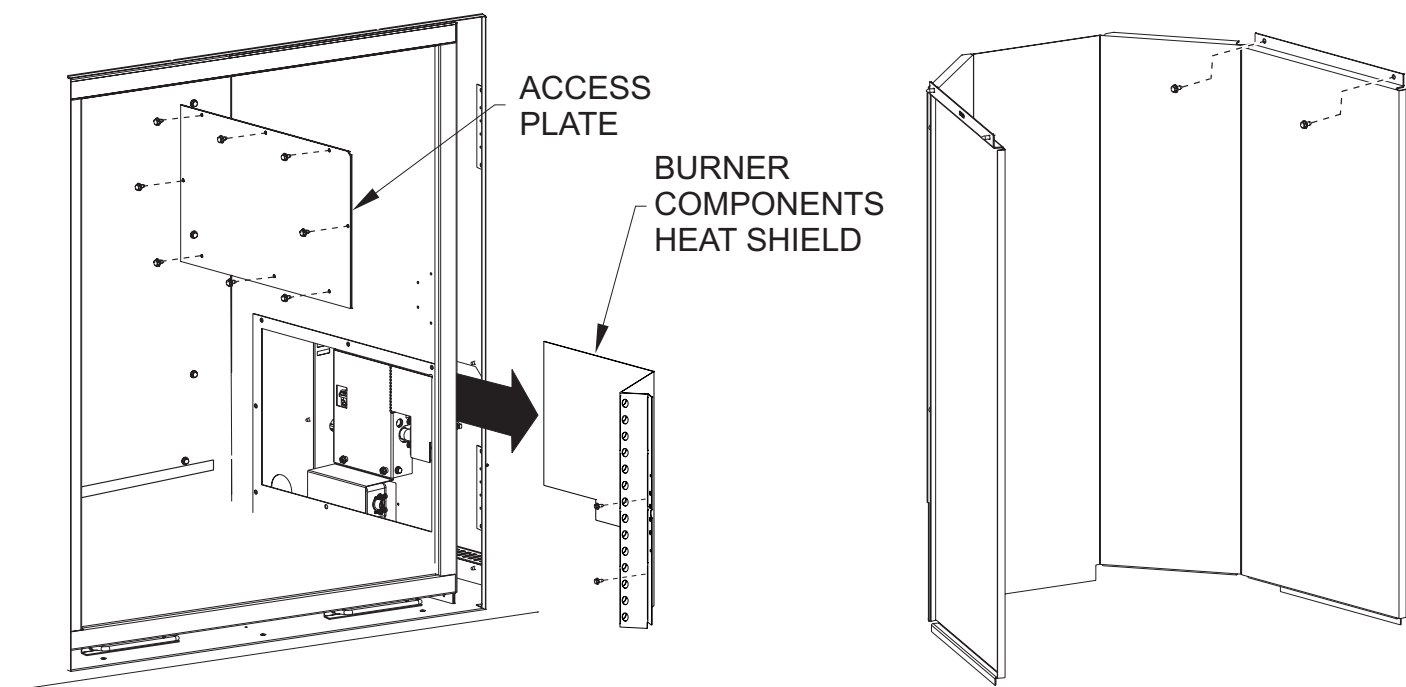

Figure 89
2. Remove the Burner Components Heat Shield. **See Figure 89.**
5. Remove the Access Plate. **See Figure 89.**